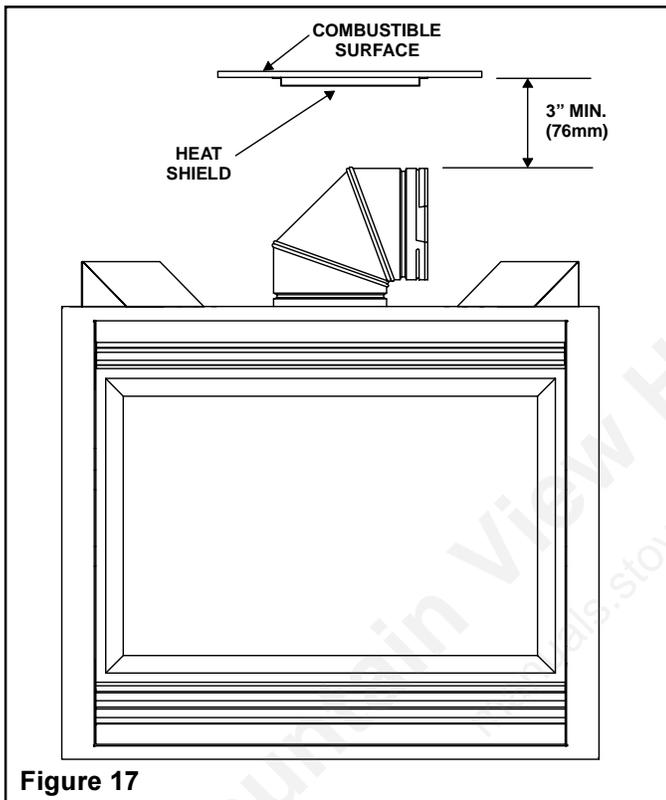

Figure 17
1. Determine if the heat shield is required. Do so by measuring the vertical distance between the top horizontal surface of the elbow to any combustible surface above. If the distance is more than 4 inches, the heat shield is **NOT** required. If it is 4 inches or less, the heat shield **IS REQUIRED**. Install per the following steps. See Figure 17.